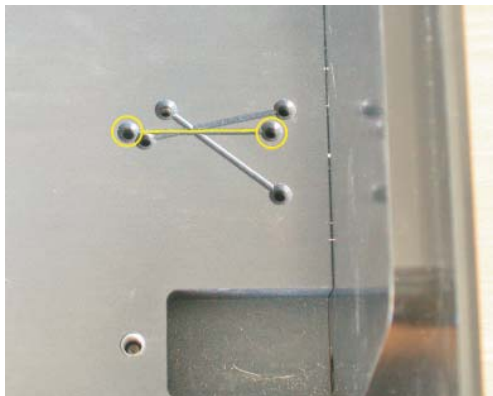

Fig. 30 Mounting holes for mirror M6 for SHG configuration
1. If the SHG unit is not mounted yet, take out mirror M5 and place it to the position shown in Fig. 28. Unscrew the mirror M6 and rotate it slightly. To fasten mirror M6 use the mounting holes shown in Fig. 30.